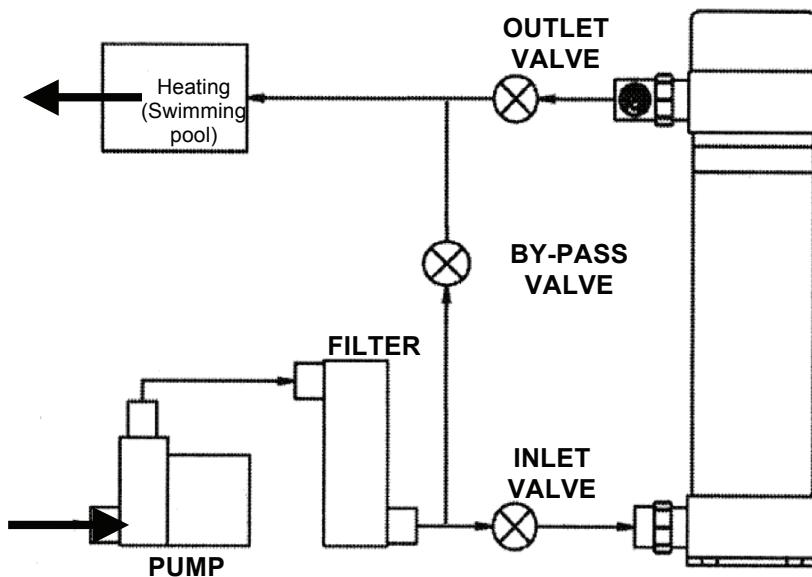

FIG. 1
**Plumbing The UV Unit** - Your UV unit will need to be plumbed into your pond or swimming pool circulation system. The diagram (Fig. 1) shows how the unit is to be plumbed. Note that the water is to be piped from the pressure side of the pump and after the filter, in and out of the UV unit. The inlet for the water is at the bottom of the UV unit, and the outlet is at the top of the UV unit. If your pump exceeds the maximum flow rate of